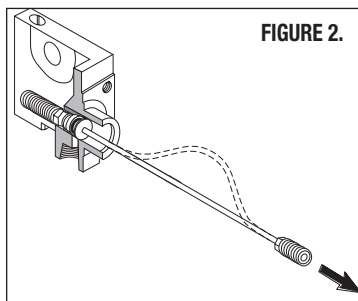

FIGURE 2.
1. Holding onto cylinder Head (6), pull Piston Terminal (1) until Bracket Terminal (8) is against Washer (4).
2. Put a small amount of slack in Cable (7) as shown in Figure 2.
3. Impart a “snap” action to Piston Terminal (1).
4. With the imparting “snap” action, Washer (2) will release allowing the removal of the complete cable assembly.